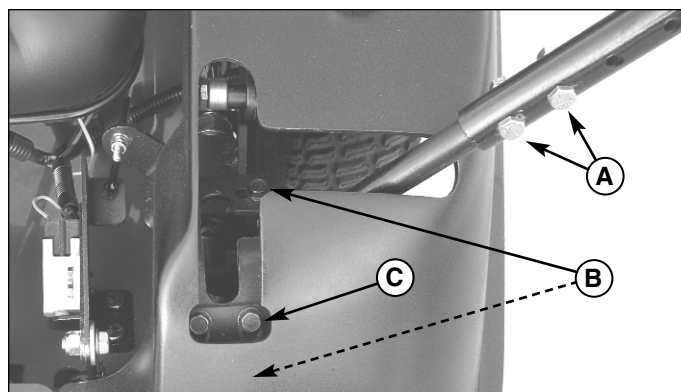

Figure 21. Motion Control Lever Adjustments
To Adjust the Lever Placement: Loosen the two bolts (B, Figure 21) securing the control track, and adjust the control track in or out to properly adjust the lever end spacing.
To Adjust the Handle Height: Remove the motion control lever mounting hardware (A, Figure 21) and reposition the lever either up or down from its original position. You may need to readjust the handle placement as described above.
1. Loosen the two bolts securing the forward adjust plate (C, Figure 21).